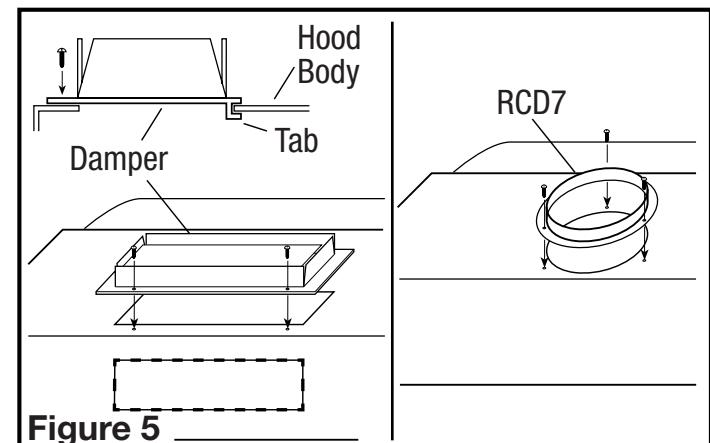

Figure 5
3. For 3-1/4" x 10" vertical or horizontal ducting, install the damper assembly to the hood by sliding the tabbed section of the damper under the hood body and securing with the two provided screws. For 7" round ducting, secure with a model RCD7 Duct Collar (not included) to the hood with the three provided screws. Using approved duct tape, tape around the collar to seal off any air leaks (Figure 5).